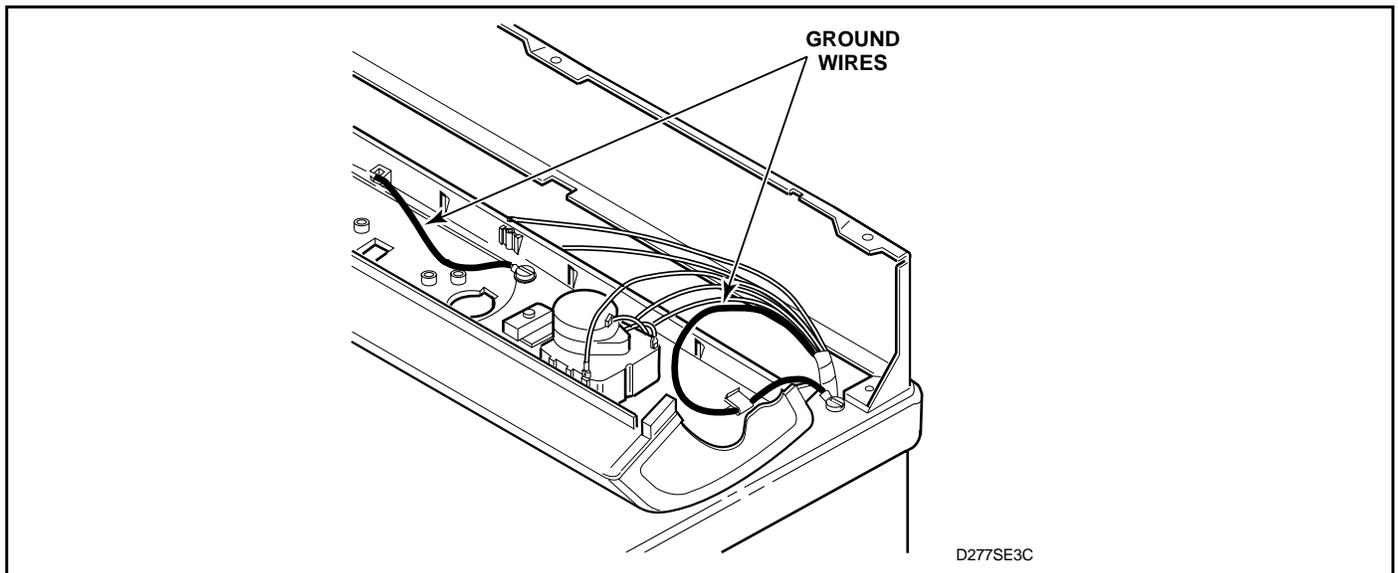

Figure 5
17. GROUND WIRES FROM REAR BULKHEAD TO TIMER MOUNTING BRACKET AND TO DRYER CABINET TOP. GROUND WIRES FROM TIMER MOUNTING BRACKET TO GRAPHIC PANEL (Figure 5).